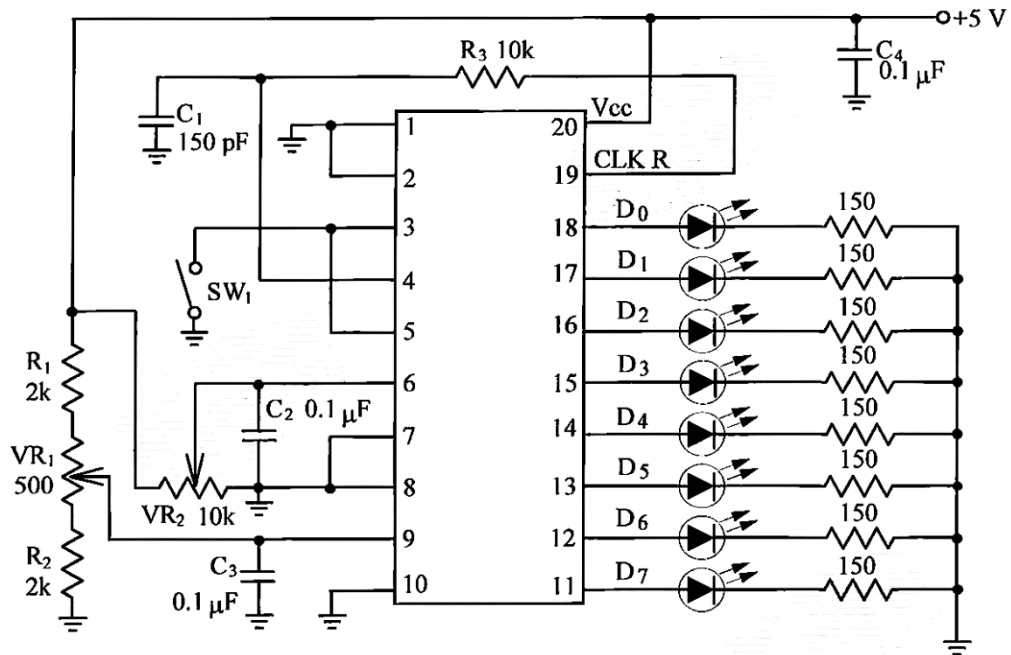

Figure 4-5 Fig 9-5 ADC0804 ADC circuit
Figure 4-5 shows an analog-to-digital converter with the ADC0804. The analog input signal is connected to $V_{in(+)}$ input and the amplitude is controlled by the VR2. Another input $V_{in(-)}$ is connected to ground. The reference voltage to the $V_{ref/2}$ (pin 9) is provided by +5V with the voltage divider containing R1, R2 and VR1. The combination of C1 and R3 determines the clock frequency. The \overline{CS} (pin 1) and \overline{RD} (pin 2) are directly connected to ground to enable the ADC. For convenience, the \overline{WR} (pin 3) and \overline{INTR} (pin 5) are wired to the switch SW1 to simulate the control signal in our experiment late.
- (1) Comment on the function of R3 and C_i in ADC0804 ADC circuit of Figure 4-5.